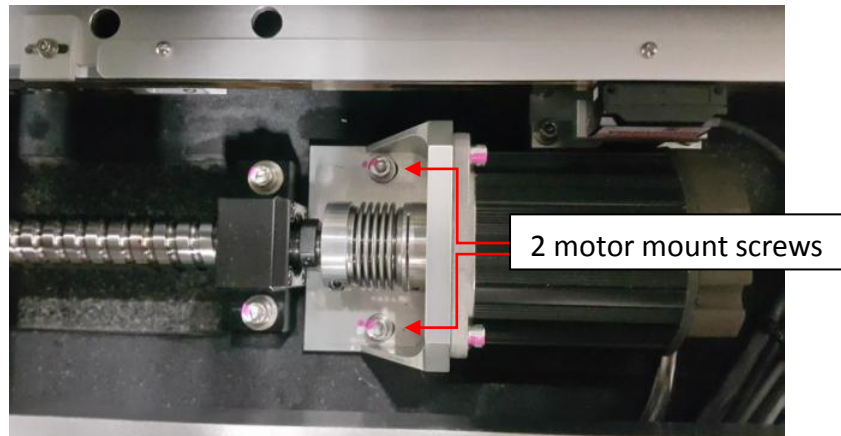

Figure 3 Motor Mount
- Loosen the 2 screw on the motor mount as shown in Figure 3.